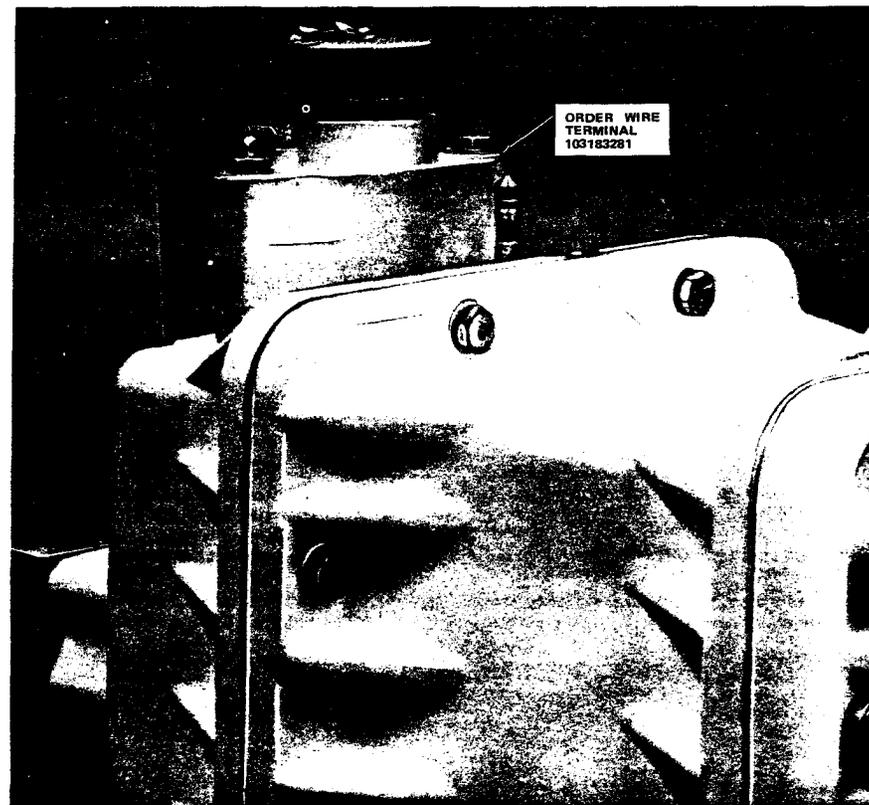
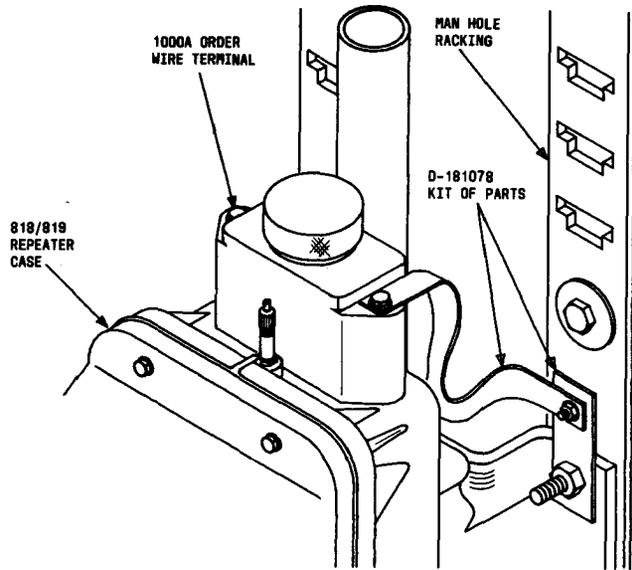

Fig. 38—Installed Order Wire Terminal
Fig. 39—♦Installed D181078 Kit of Parts♦
7.04 Secure the order wire terminal to the base using the two bolts and washers provided (Fig. 38). The bolts must be torqued to 20 to 30 inch-pounds. **Do not overtorque.** Test for leaks as outlined in paragraphs 6.13 and 6.14. ⚡Attach the ground strap between the terminal body and the mounting foot as shown in Fig. 39.⚡
**8.01** ♦The D-181078 kit of parts consists of a terminal and ground strap used to ground the 1000A order wire terminal to the repeater case mounting bracket as shown in Fig. 39. All cases manufactured after October 1, 1980, do not require the application of this kit.